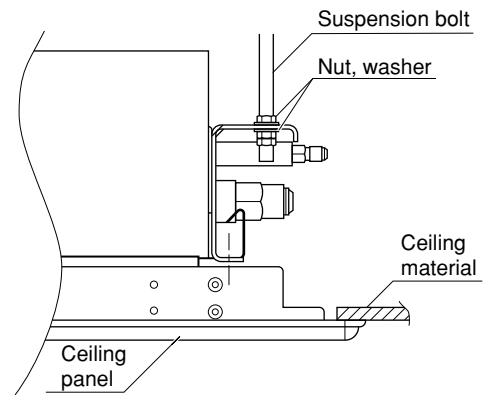

Fig. 9-3
- (4) Check to see that the ceiling panel is properly aligned with the seamline of the ceiling. If not, readjust the indoor unit by adjusting the nuts to the proper suspension point. (Fig. 9-3)